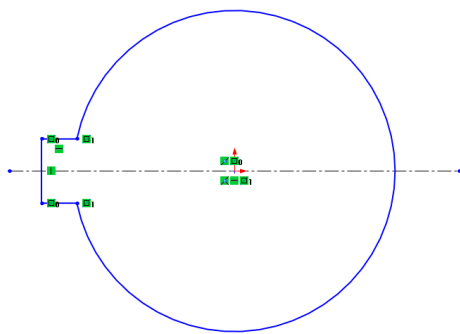

Figure 3-71 The sketch after removing the unwanted portion
- d. Draw and edit the sketch using the **Mirror Entities** and **Trim Entities** tools, refer to Figure 3-71.
button and drag the cursor over the portion to be removed. Choose the **Close Dialog** button from the PropertyManager. The sketch after removing the unwanted portion is shown in Figure 3-71.